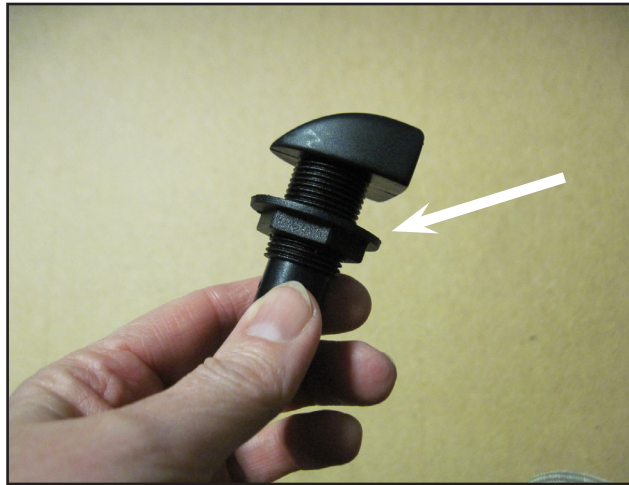

Figure 77. Remove Plastic Nut from Filter Vent
5. Unfasten the large plastic nut from the Filter Vent, remove and retain (see Figure 77).